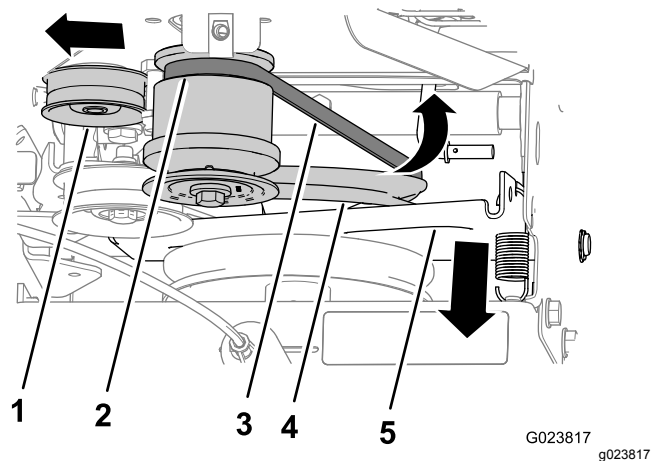

Figure 42
5. Pull the tension pulley outward (Figure 42).
7. Slip the belt off the rear groove of the engine pulley and remove the belt from the machine (Figure 42).
4. Pivot the traction-control bracket and traction pulley forward (Figure 42).
2. Align the belt into the groove at the bottom of the traction pulley (Figure 42).
3. Pull the tension pulley outward (Figure 42).
4. Align the belt into the rear groove of the engine pulley (Figure 42).